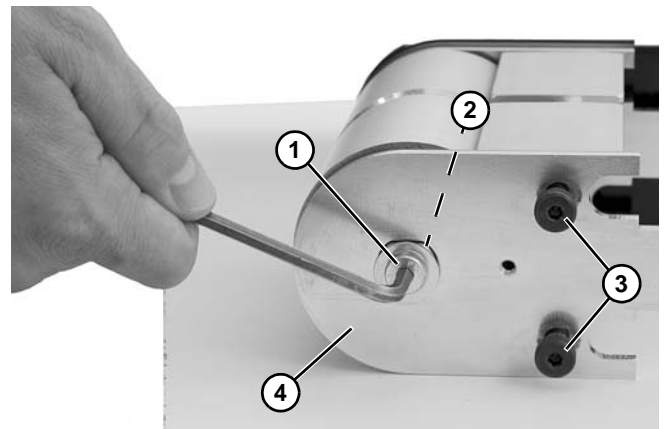

Figure 74
3. Remove cap screws and washers (**Figure 74, item 1**) from idler shaft (**Figure 74, item 2**) from both sides of the tail.
4. Remove shoulder screws (**Figure 74, item 3**) from backing plate (**Figure 74, item 4**) on one side as shown.